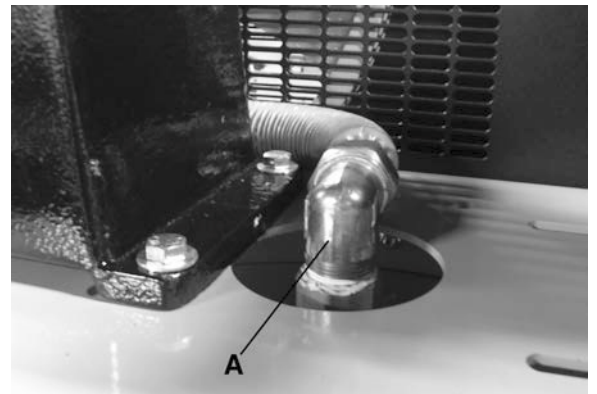

FIGURE 8
CHECK VALVE (A) FIG.8. When the air compressor is operating, the check valve is "open", allowing compressed air to enter the air tank. When the air compressor reaches its "Cut-Out" pressure, the check valve "closes", allowing air pressure to remain inside the air tank.